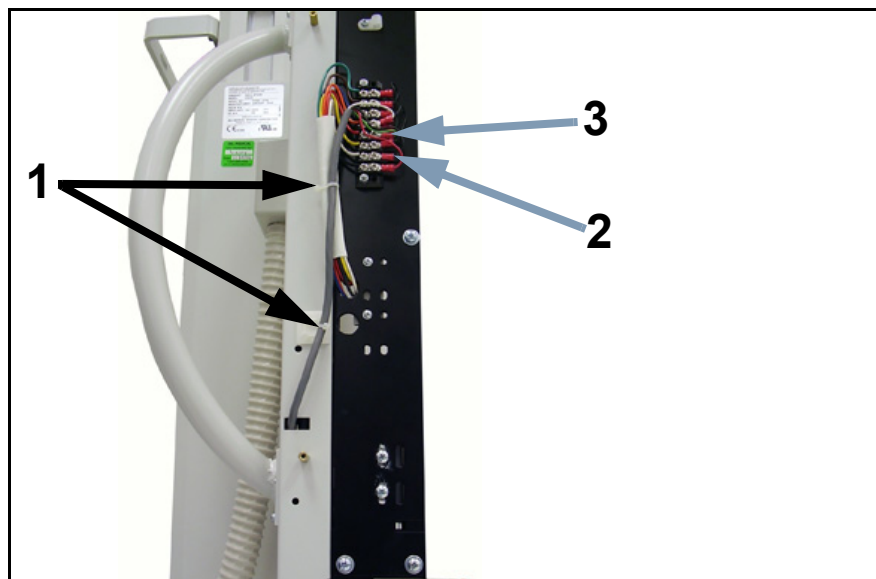

Figure 5-8. PBL Bracket Screws
- 7 Cut cable ties (1 in Figure 5-8).
- 8 Disconnect wires (2) from the terminal (3).